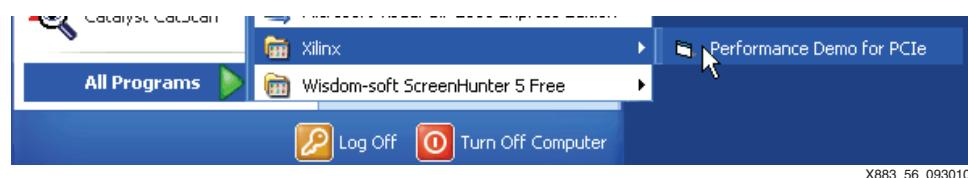

Figure 56: Launch Performance Demo for PCIe
29. Launch the **Performance Demo for PCIe** application from the Windows **Start** menu, as shown in Figure 56.